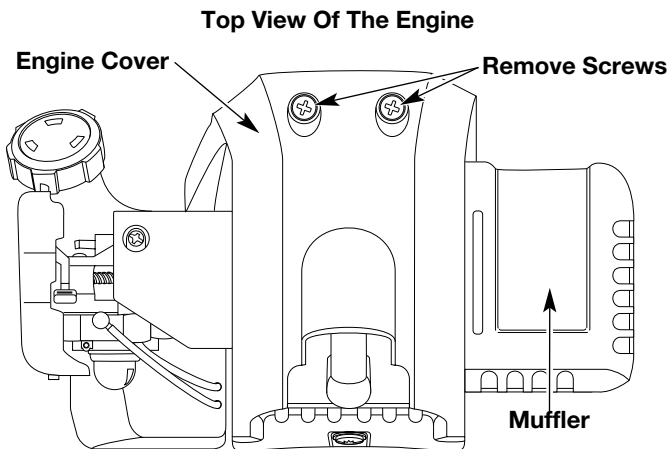

Fig. 39
2. Remove the two (2) screws on top of the engine cover with a phillips screwdriver (Fig. 39).
6. Remove the engine cover (Fig. 39).